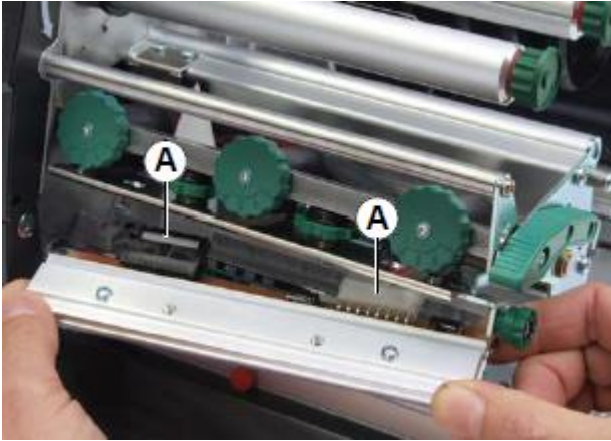

Fig.3 Printhead cables (A)
- Once the printhead is free of the bracket, remove the cables (power and data) marked A in Fig.3 below.